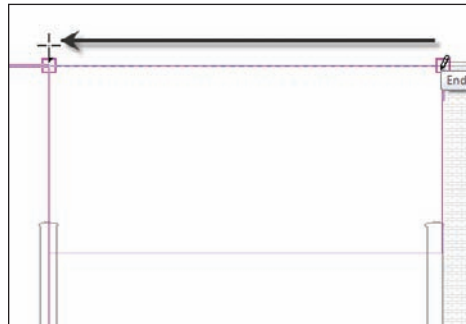

FIGURE 3.46 Drawing the line across the top
11. Continue drawing the line from the right to the left across the top of the wall. Snap to the endpoint of the wall to the left, as shown in Figure 3.46.